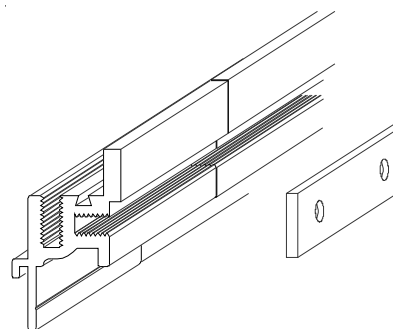

Figure 10
STEP 4. Select a splice bar and place it into position on the frame so that the splice bar traverses the splice and so that the splice is centered behind the splice bar (see Figure 10).